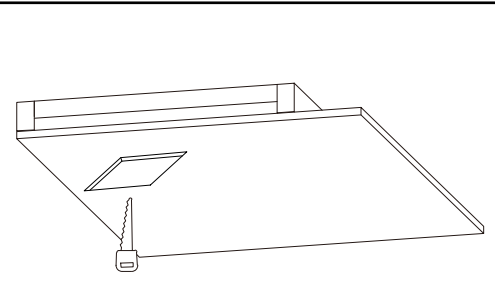

Figure 18
4. Make hole in drywall the same size as needed for fixture. (Fig.18)